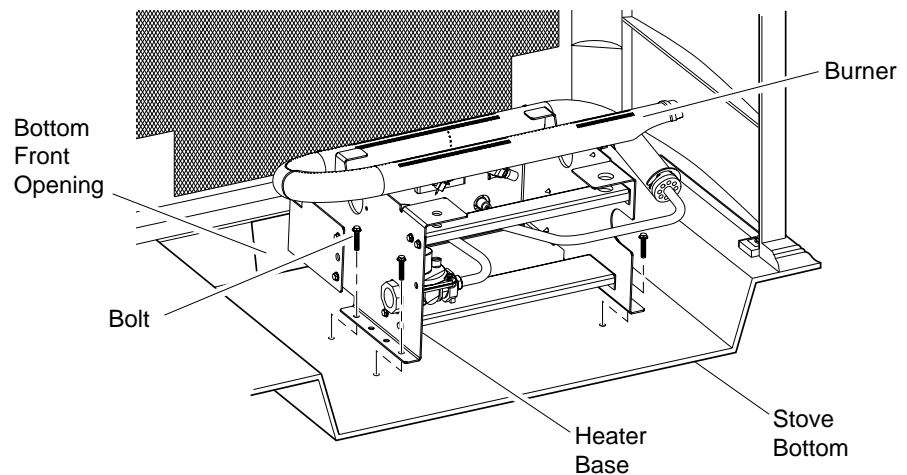

Figure 13 - Placing Heater Base In Stove Cavity
5. Set gas log heater inside stove. Make sure control knob extension passes through bottom front opening (see Figure 13).
6. Align outside holes on heater base with four (4) mounting holes on the stove bottom (see Figure 13).